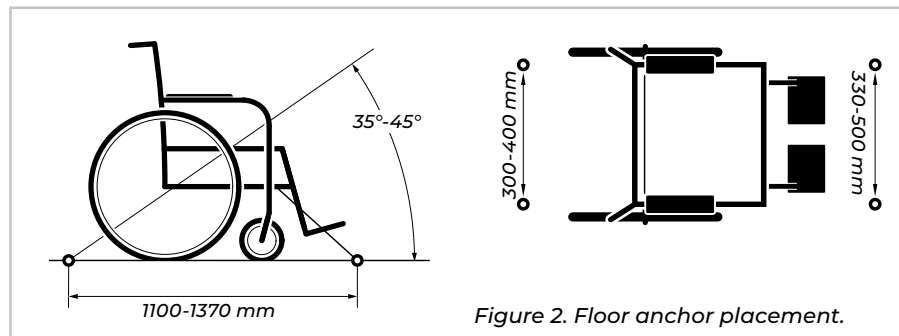

Figure 2. Floor anchor placement.
- 3 Mark out the chosen floor anchor points, guidance positions are shown in Figure 2, and check under the vehicle if there are no brake lines, fuel tanks, or chassis parts blocking the installation.